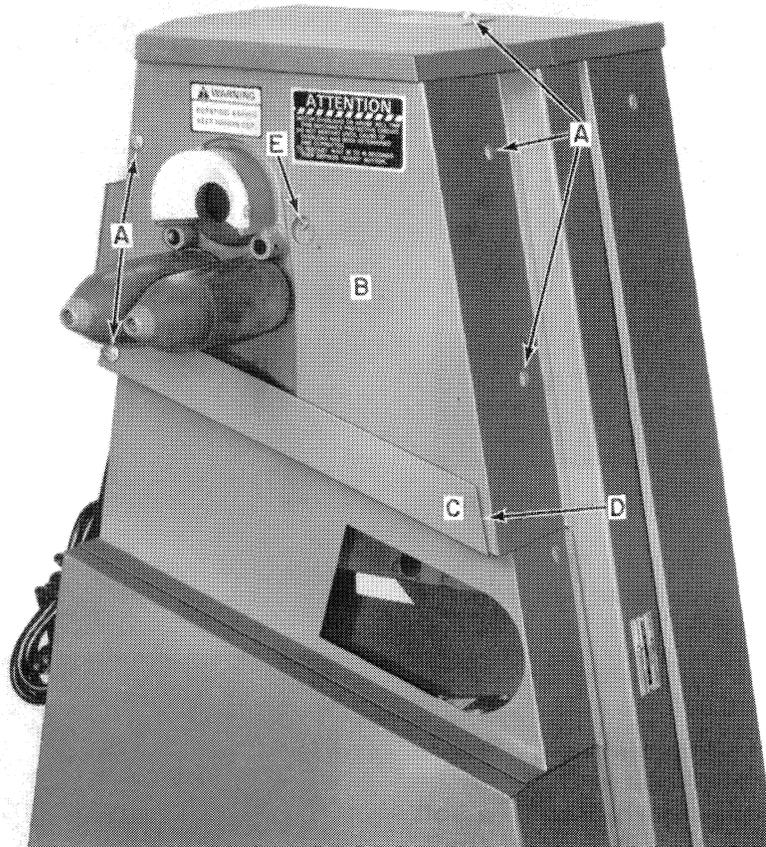

FIGURE 1
1. Remove cap shield weld assembly, B, Figure 1, by removing the five truss head cap screws at A.